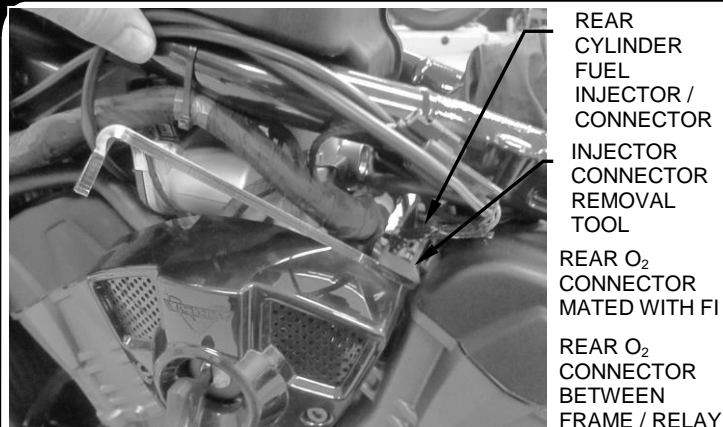

FIGURE 9
8. From left side of motorcycle locate rear cylinder fuel injector connector between cylinders and repeat removal process using injector removal tool. See Figure 9. Connect stock female connector to male Fi connector. Use wider end of supplied tool to install Fi female connector on to injector.